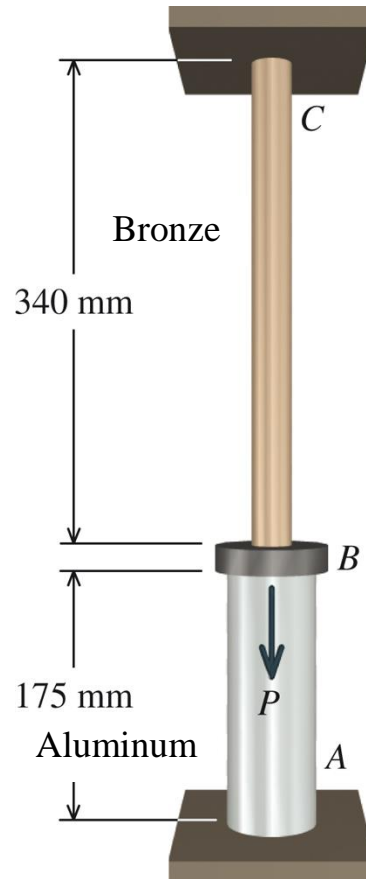

Figure 3
3. A solid aluminum ($E_{al} = 70$ GPa) rod is connected to a solid bronze ($E_{br} = 100$ GPa) rod at flange B , as shown in Fig. 3. The aluminum rod has an outside diameter of 35 mm, whereas the bronze rod has an outside diameter of 20 mm. Knowing that the axial stress in the aluminum rod must be limited to 160 MPa, and the axial stress in the bronze rod must be limited to 110 MPa, determine: